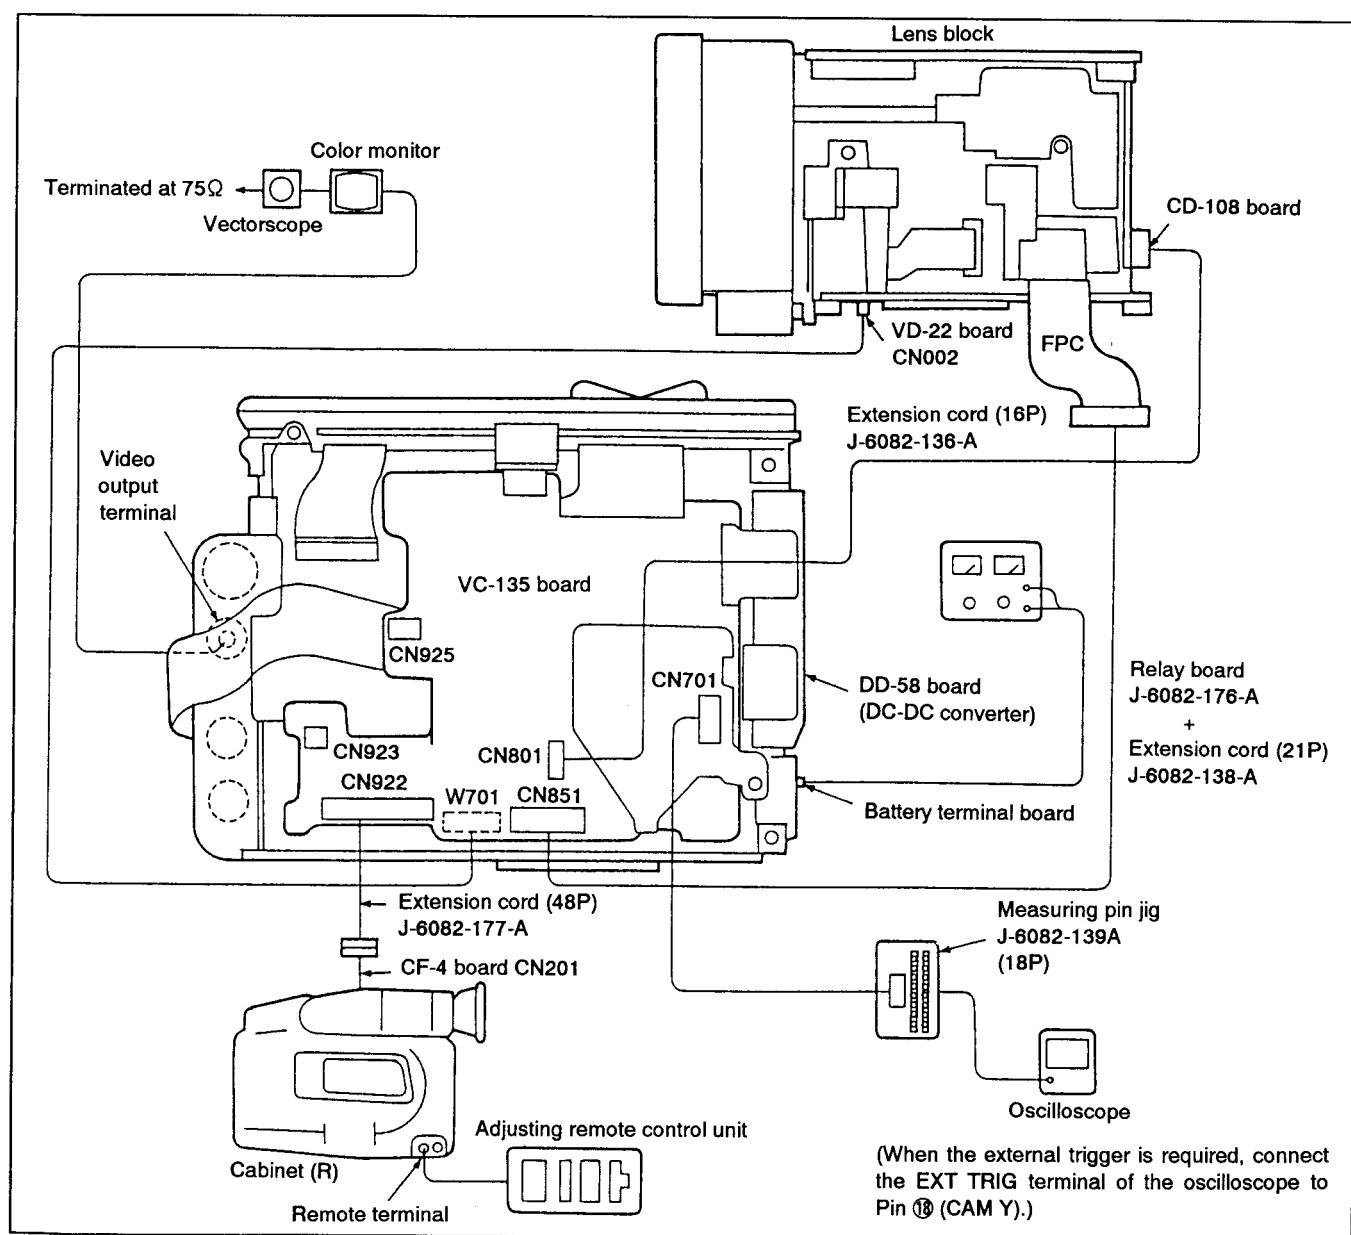

Fig. 8-3.
- 1) Connect the equipments for adjustment as shown in Fig. 8-3.